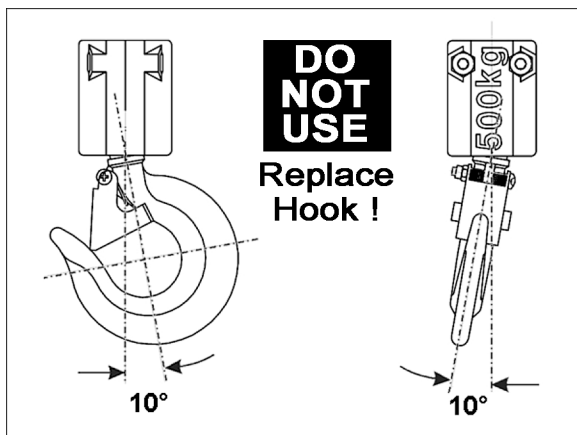

Figure 7
2. The vertical angle at neck of the hook reaches 10° (see Figure 7).